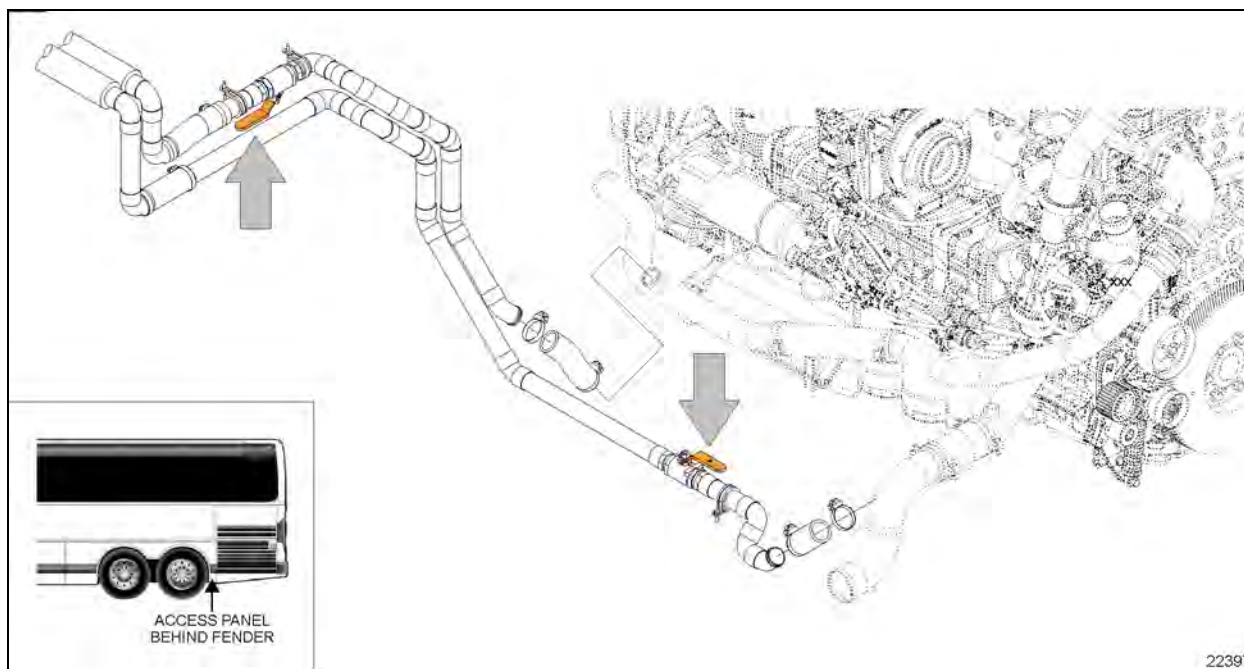
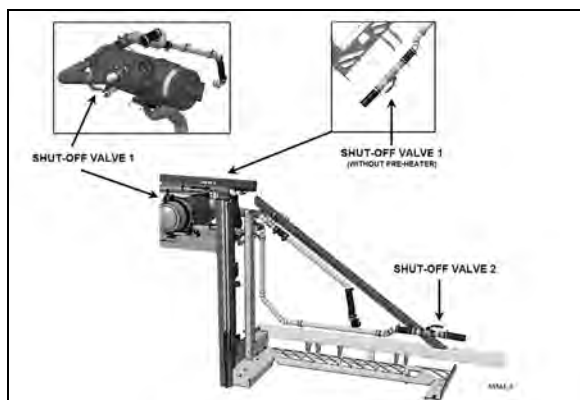

FIGURE 80 X3 SERIES HEATER LINE SHUT-OFF VALVES-(ALLISON TRANS. PIPING ARRANGEMENT SHOWN)
FIGURE 81: H3 SERIES HEATER LINE SHUTOFF VALVES 05144
3. Close the hot water lines shutoff valves located next the engine on street side (see Figure 80 or Figure 81).
2. Close both heater line shutoff valves (Figure 80 or Figure 81). One is located in the engine compartment, lower road side, near the radiator while the other one is located behind the L.H. hinged rear fender near the preheater.